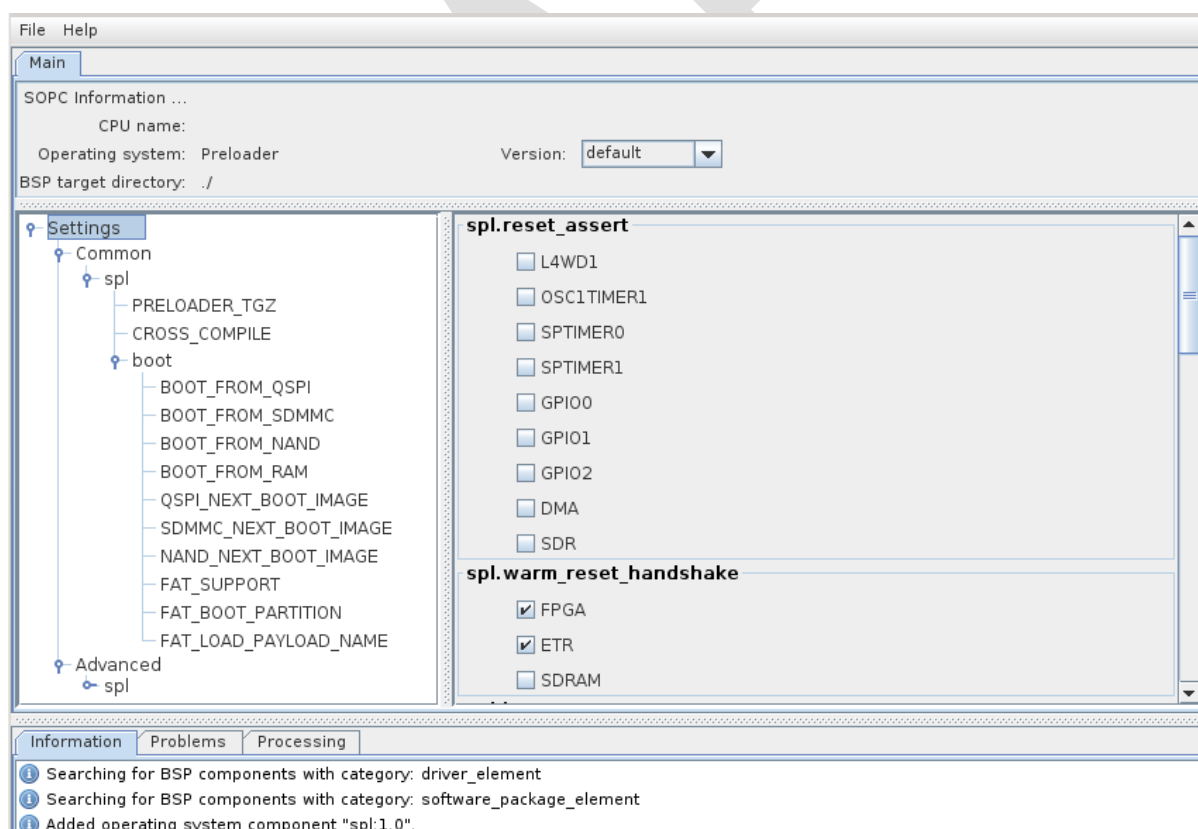

Figure 7-20. Preloader Settings Dialog
- c. Press the “OK” button. You should then arrive on a page with many settings, as shown on Figure 7-20. Take some time to read through them to see what the preloader has the ability to do.